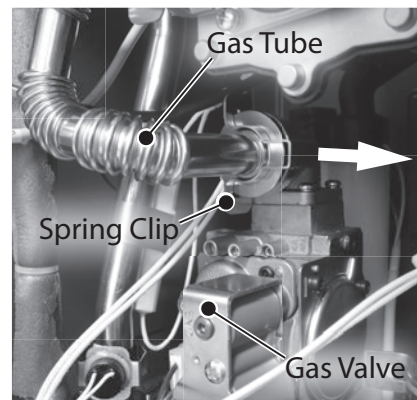

Figure 132 - Remove gas tube spring clip
- 18** Locate the gas tube connecting the venturi assembly to the gas valve as shown in Figure 132. Note the orientation of the spring clip securing the gas tube to the gas valve. Remove spring clip and place it aside in a safe place for reinstallation. Leave the gas tube connected to gas valve. This will provide support when removing the fan assembly screws.